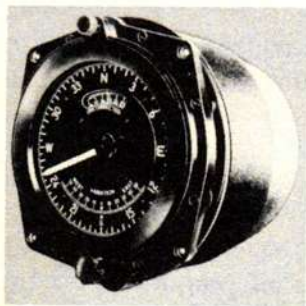

Figure 5-1-10.
**The gyro flux gate compass.** This is a combination gyro-magnetic instrument which indicates the directional heading of your aircraft. (See fig 5-1-10.)